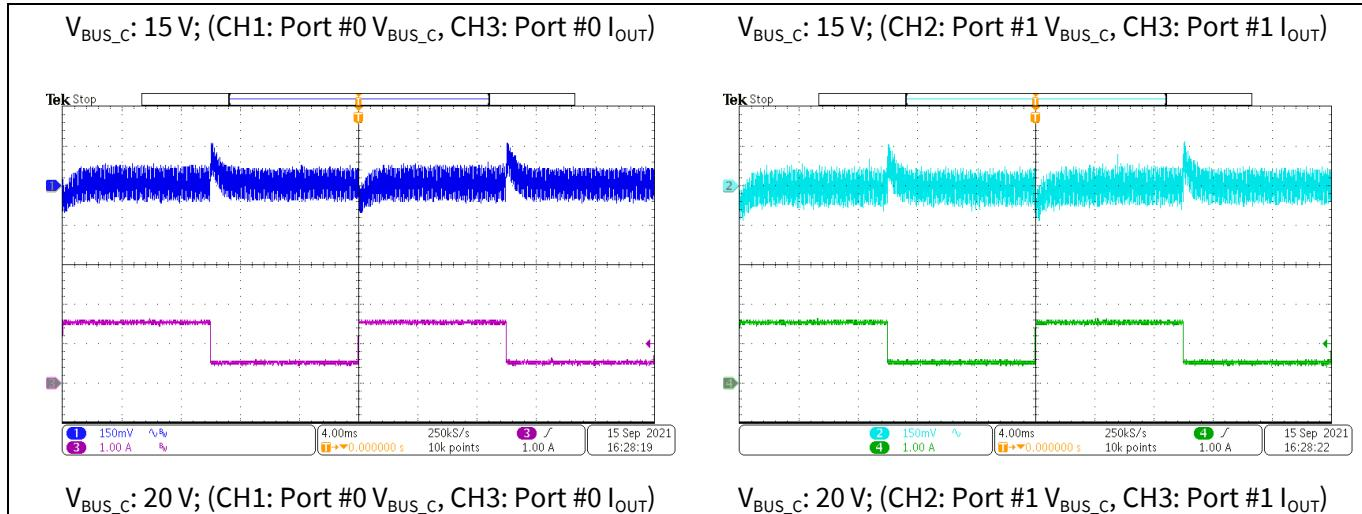

Figure 26 Output dynamic response waveforms - Input 24 V; Load transition 0.5 A to 1.5 A to 0.5 A
- V_{IN} :24 V, output voltage response when the output current is from 0.5 A – 1.5 A – 0.5 A is shown in Figure 26.